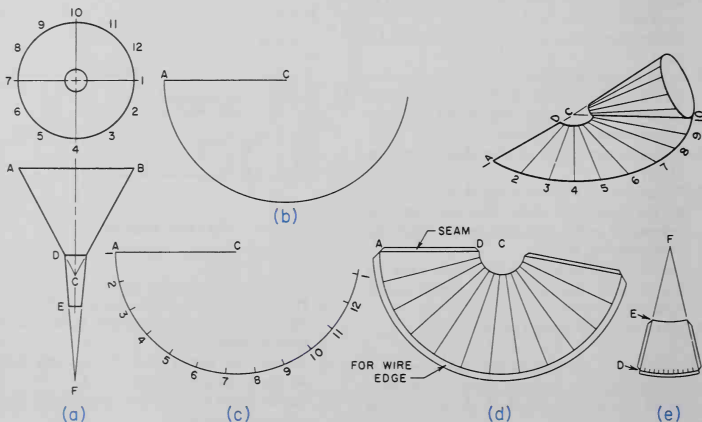

Fig. 11-13. Layout for a cone.
1. Draw two views of the object showing its size and shape, Fig. 11-13 (a).
2. Draw the stretchout with AC as the radius, Fig. 11-13 (b).
3. Transfer the equal spaces representing the circumference in the top view to the stretchout, Fig. 11-13 (c).
4. Use the distance CD to draw the arc which forms the lower edge of the funnel body. See Fig. 11-13 (d) below.
6. Make stretchout for spout in similar manner, Fig. 11-13 (e).